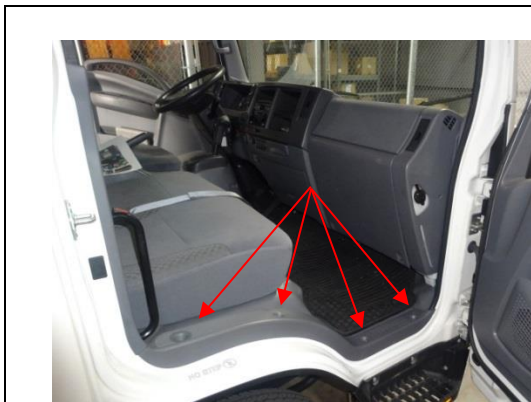

Figure 1
1. Remove the passenger door sill protector by removing four (4) screws. (See Figure 1)
6. Install the door sill protector. (Refer back to Figure 1)